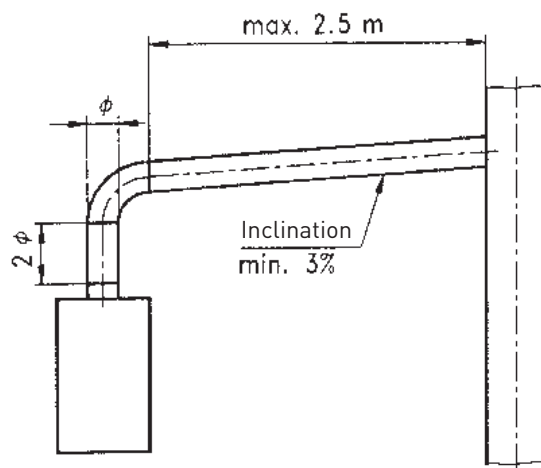

Fig. 4
2.4.1 Flue pipe connection (fig. 4)